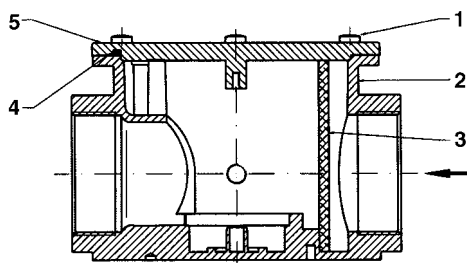
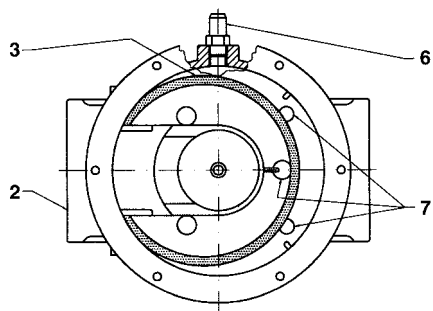

Fig. 47b
Fig. 47c - Top view, without cover
Threaded fittings - Fig. 47b and Fig. 47c
After having ensured that there is no pressurised gas inside the filter, remove the cover (5) by unscrewing the fastening screws (1). Remove the filter cartridge (3), wash it in soap and water, blow it with compressed air (or replace if necessary) and put it back in its initial position, checking that it fits between the positioning guides (7) and that it does not stop the cover (5) from being put back in place. Finally, put the cover (5) back in place, making sure that the O-Ring (4, Fig. 47b) is in its seat.
Key (Fig. 47b - Fig. 47c)